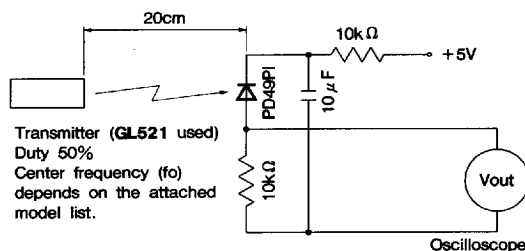
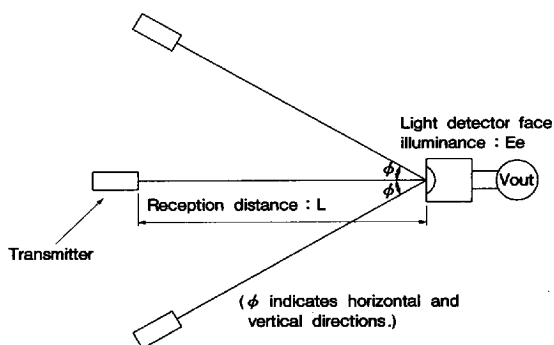

Fig. 1. Transmitter
Fig. 2. Standard optical system
*3 The burst wave as shown in the following figure shall be transmitted by the transmitter shown in Fig. 1.
Using the transmitter shown in Fig. 1, the output signal of the light detecting unit is good enough to meet the following items in the standard optical system in Fig. 2.
When $L=0.2$ to 8m , $E_e < 10\text{ lx}$ and $\phi = 0^\circ$ in Fig. 2, the output signal shall meet the electrical characteristics in the attached list.
When $L = 0.2$ to 6m , $E_e < 10\text{ lx}$ and $\phi \leq 30^\circ$ in Fig. 2, the output signal shall meet the electrical characteristics in the attached list.
When $L=0.2$ to 4m , $E_e \leq 300\text{ lx}$ and $\phi = 0^\circ$ in Fig. 2, the output signal shall meet the electrical characteristics in the attached list.